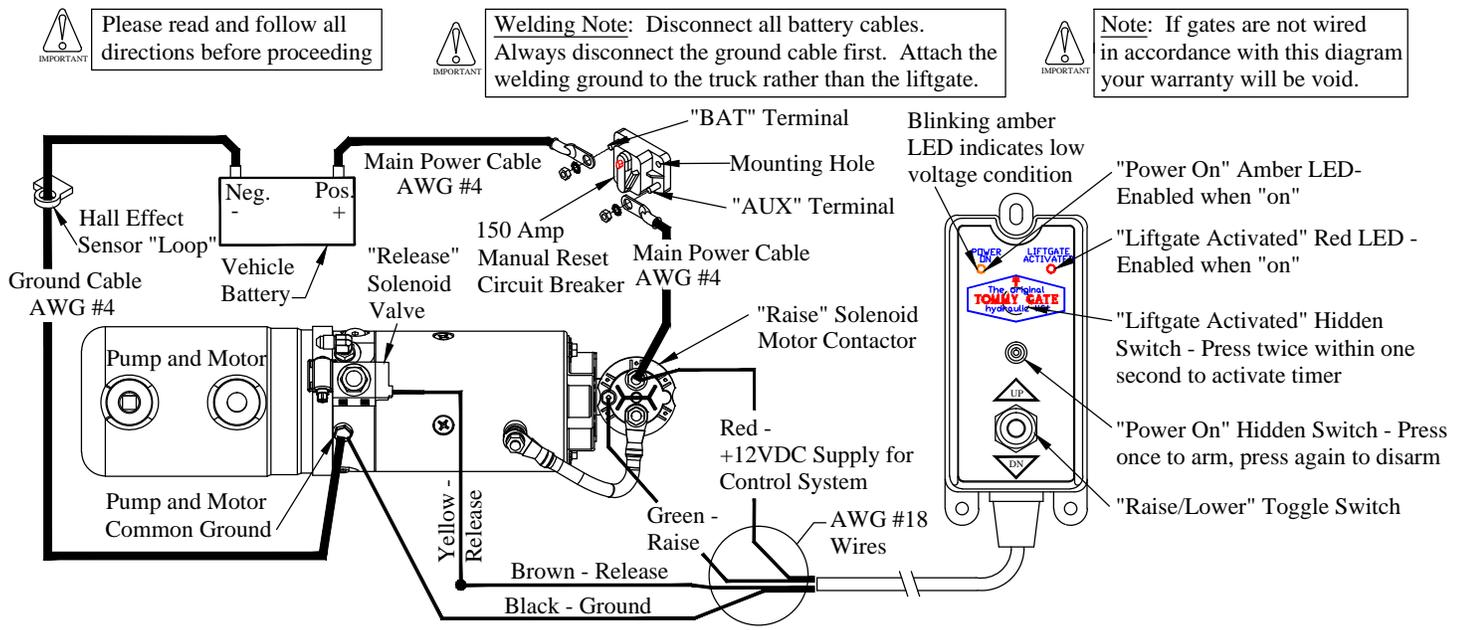

Figure 18: Wiring diagram.
3. **Push** the hidden "Power On" switch (Figure 18). The amber "Power On" LED will illuminate.
13. Connect the circuit breaker and battery as outlined in the *Tommy Gate Recommended Electrical Wiring Guidelines* and wiring diagram (Figure 18).